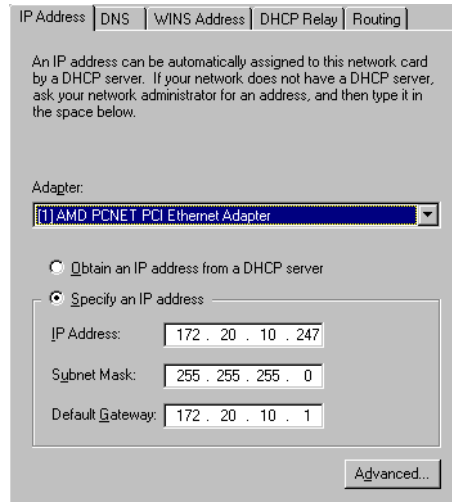

Figure 41. Microsoft TCP/IP Properties
- i. When the Microsoft TCP/IP Properties prompt is displayed, you need to enter your assigned IP Address, Subnet Mask, and Default Gateway address for your Ethernet (or Token Ring) adapter that will communicate with your LAN/WAN (we used an Ethernet adapter as shown in Figure 41). If necessary, contact your network administrator for your network configuration information.